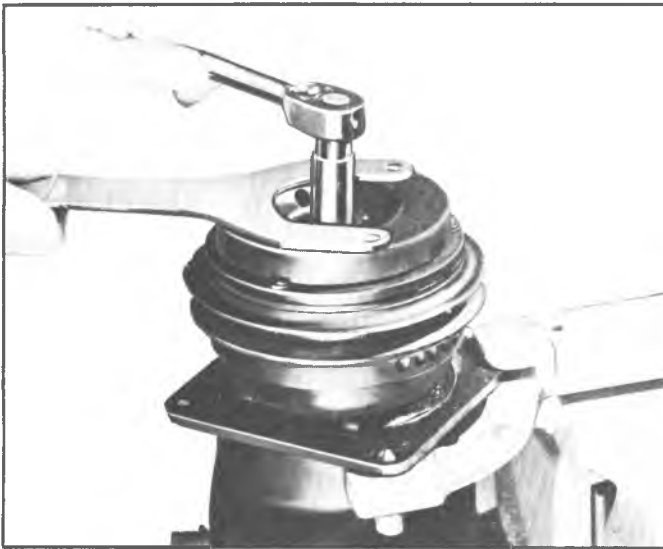

Fig. 2--Removing Shaft Locknut
2. Using Clutch Hub Holding Tool J-9403 and Socket J-9399, remove the locknut from the shaft (fig. 2). Discard locknut.